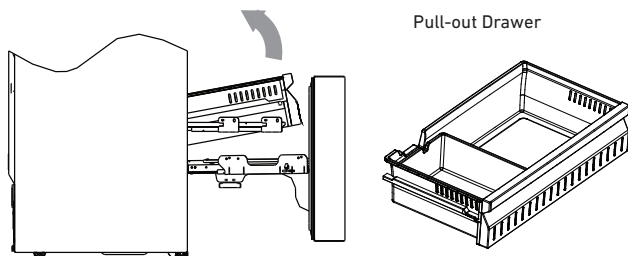

Figure 8
- 3) Pull the slide rails all the way out and push the pull-out drawer forward until the drawer is separated from the support claws on the slide rails. See Figure 8.